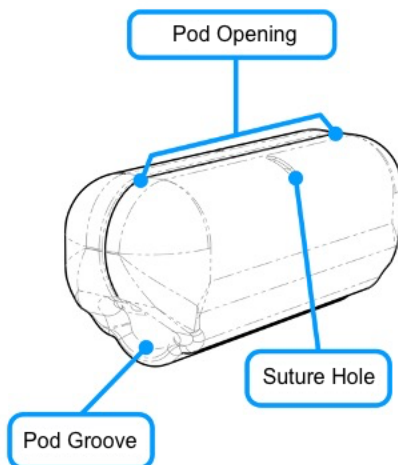

Figure 3 - Pod
- ii. Insert the Pod under the nerve (see Figure 12c) and align it such that the nerve is positioned at the Pod groove (see Figure 3 on page 7 and Figure 12d).